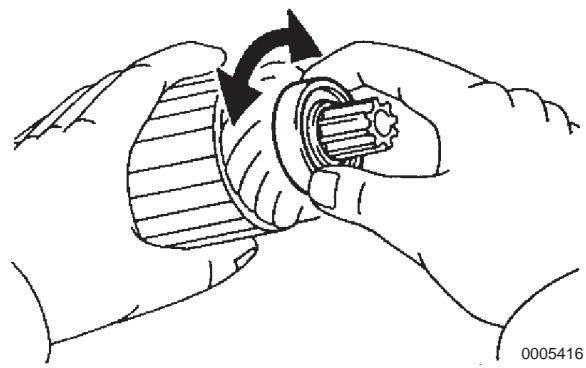

Figure 10-28
1. Inspect the bearing by manually turning **(Figure 10-28)** the bearing while applying an inwards force. If you feel resistance or play in the bearing, replace the bearing.